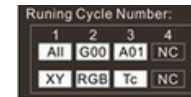

Figure 63
Cycle Running Status displays the running status of all Cycle Schedules as shown in following Figure 63. The Cycle number with white background and black font is a running Cycle Schedule, the Cycle number with black background and white font is a Cycle Schedule which stops running. R means the Cycle Schedule status changes from stop to running, S means the Cycle Schedule status changes from running to stop. Cycle Running Status only displays the status, and the parameter can not be modified.
- o Press the Confirm key to enter the Cycle Running Status page (Figure 63).